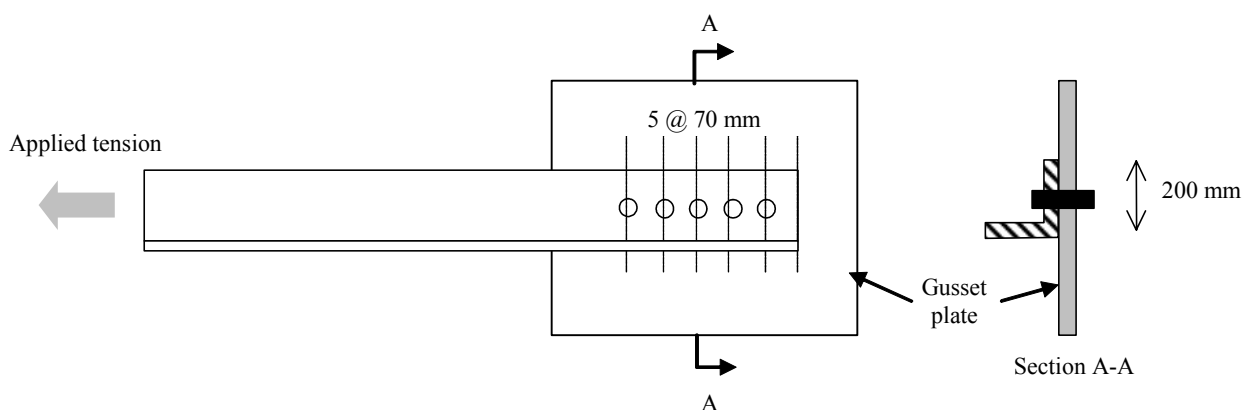

Figure 5
- (b) An engineer is assessing the tensile strength of a bracing connection in which a  $200 \times 200 \times 20$  EA (Grade 300) is bolted to a 25 mm thick gusset plate (Grade 300 to AS/NZS 3678) by 5 bolts as shown in Figure 5. The bolt pitch is 70 mm. Grade 8.8 snug tight M20 bolts are used in this connection, and the plane between the gusset plate and angle coincides with the *threaded* part of the bolt.